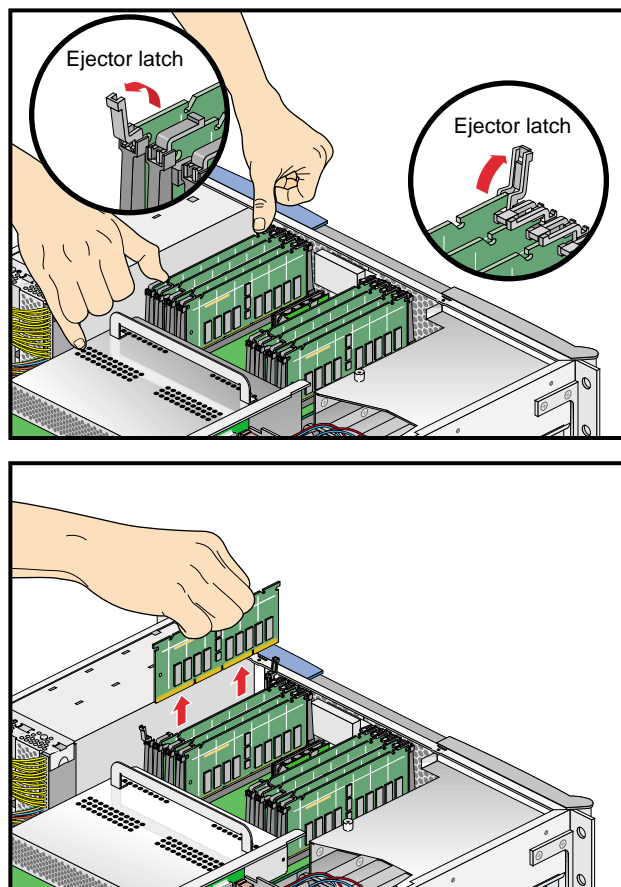

Figure A-11 Removing a DIMM
7. Remove the DIMM, as follows (see Figure A-11):